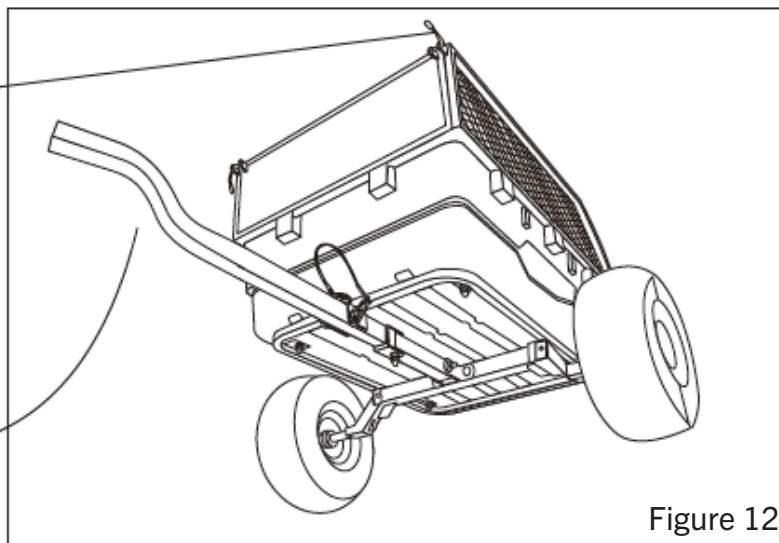

Figure 12
14. Assemble the 2" ball hitch coupler to trailer tongue. FIGURE 12